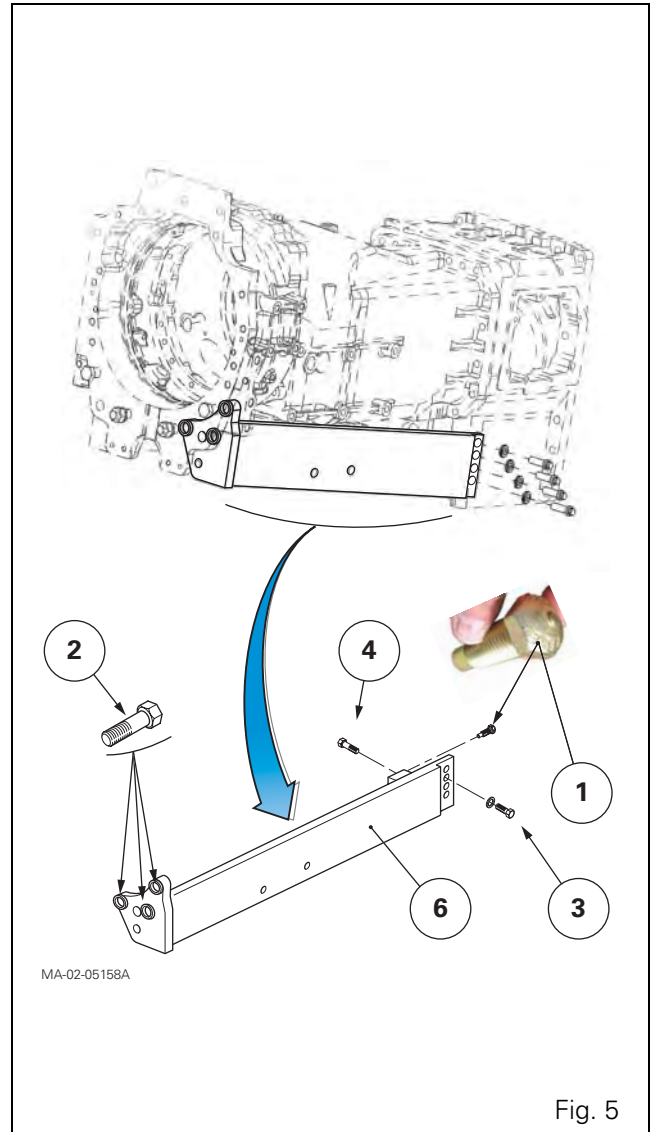
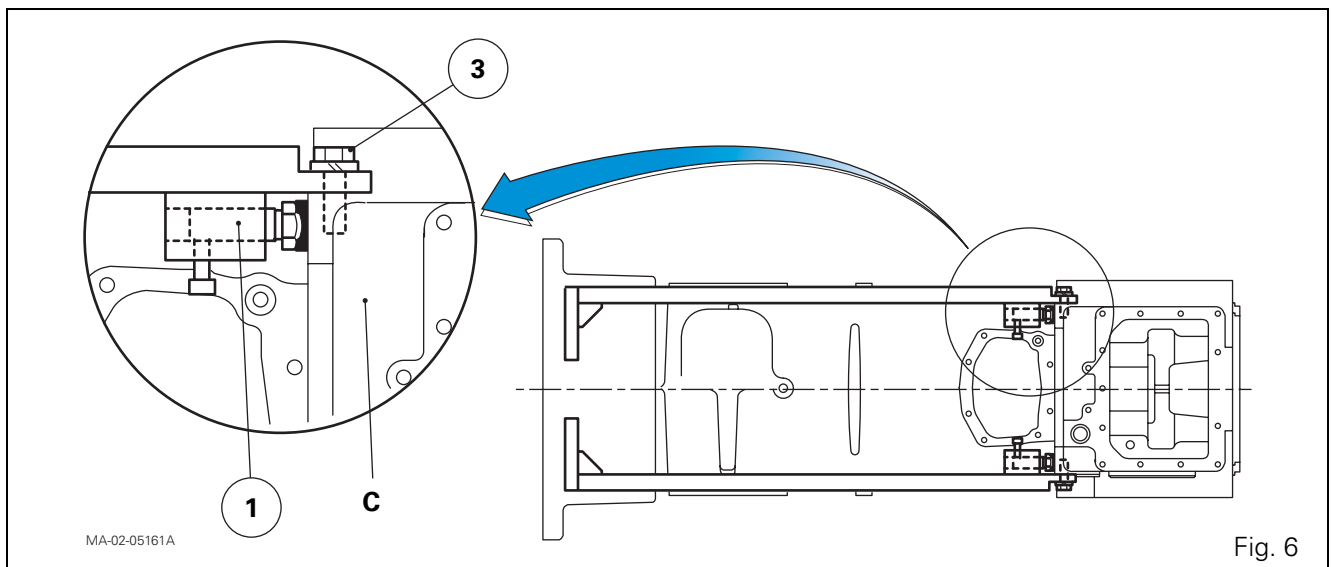

Fig. 5
Fig. 6
6. Unscrew locking bolt (4) partially.
7. Fully tighten set bolt (1) on each reinforcement (6) (Fig. 4, Fig. 5).
- bolts (3) together with their washers. Tighten them partially
- bolts (2) fitted with their nuts beforehand and lightly coated with Loctite 270 or equivalent. Tighten them to 630 - 840 Nm.
Final tightening (Fig. 5, Fig. 6)
10. Pre-tighten bolts (3) to 20 Nm.
11. Unscrew set bolts (1) until they come into contact with the intermediate housing C through their spherical washer. Once their spherical washer comes into contact with the intermediate housing (Fig. 6), continue to unscrew bolts (1) using a torque wrench until a loading of 100 Nm is generated on the reinforcements.
12. Lightly smear the threads of the locking bolts (4). Tighten them to 36 - 46 Nm.
13. Unscrew a bolt (3) to smear its thread lightly with Loctite 270 or equivalent. Tighten this bolt to 240 - 320 Nm.